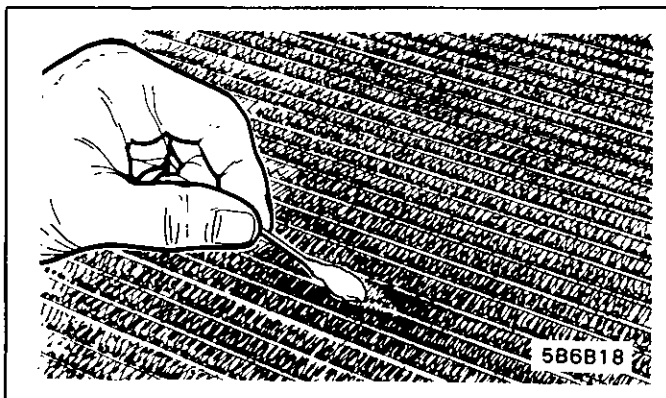

Fig. 31 Scrubbing Area with Primer
- Scrub the repair area with a cotton swab until a fresh swab stays clean. The clear, yellow-brown coating does not have to be removed (Fig. 31).